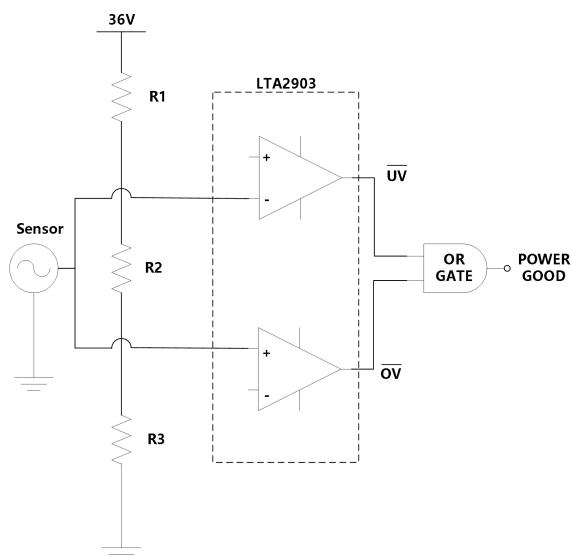

Figure 7: Window Comparator
Window Comparators are commonly used to detect undervoltage (UV) and overvoltage (OV) conditions. Figure 7 shows a simple window comparator circuit.
Configure the circuit as shown in Figure 7. Connect V_{S+} to a 36 V power supply and V_{S-} to ground. Make R1, R2 and R3 each 10Mohm resistors. These three resistors are used to create the positive and negative thresholds for the window comparator (V_{TH+} and V_{TH-}). With each resistor being equal, V_{TH+} is 24 V and V_{TH-} is 12 V. Large resistor values such as 10Mohm are used to minimize power consumption. The sensor output voltage is applied to the inverting and non-inverting inputs of the 2-channel LTA2903s. The respective comparator outputs will be low when the sensor is less than 12V or greater than 24 V. V_{OUT} will be high when the sensor is in the range of 12 V to 24 V. See the application curve in Figure 8.